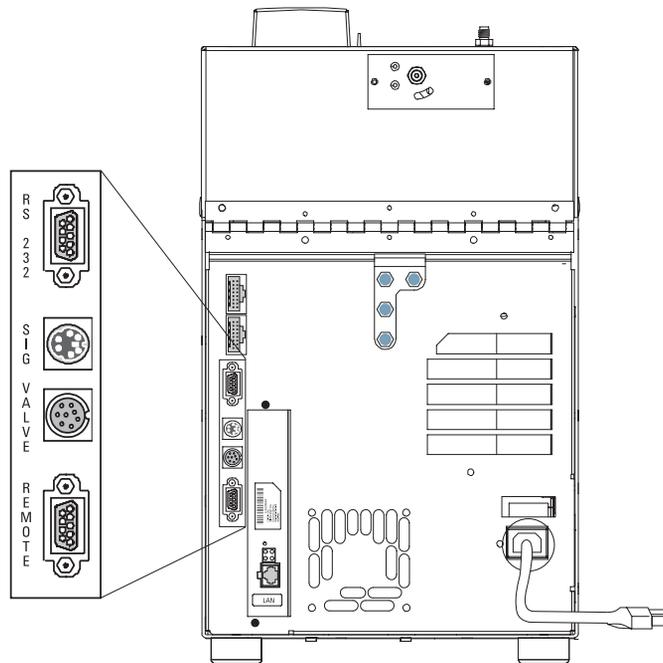

Figure 6 Back panel view
- 11 Connect a shielded LAN cable between the LAN connector on the back of the GC and connector #2 on the network switch. See Figure 6.